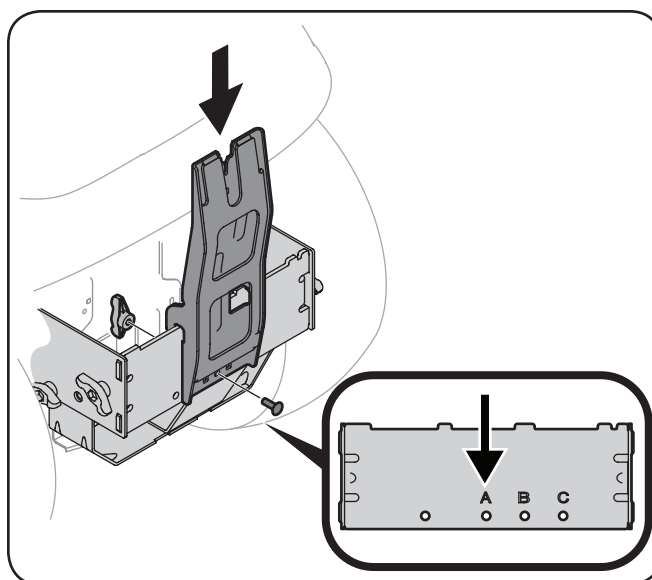

**Figure 4-4**
2. Install the bagger support bracket, included with the loose parts, into the mounting assembly as shown in Figure 4-4. Line the holes up as shown.
3. Install the clevis pin (711-0309A) from hardware pack 689-00328A into the tractor's hitch, the bagger support bracket, and the mounting assembly and secure with a hairpin clip (714-0117). See Figure 4-4.